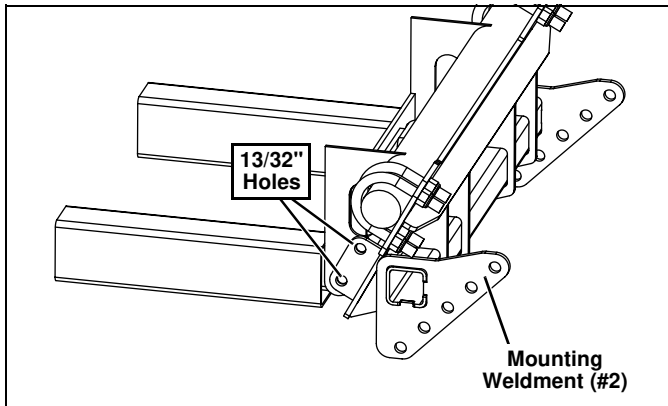

Figure 6
6. Using the holes in both sides of the Mounting Weldment (#2) as a template, center punch and drill 13/32" holes into the vehicle's frame gusset. (See Figure 6.)